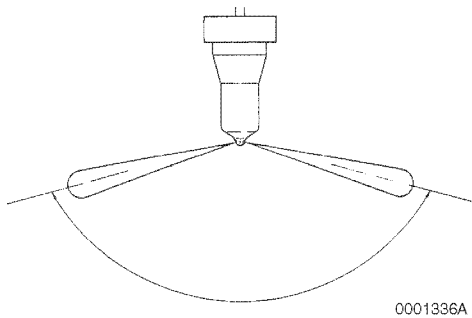
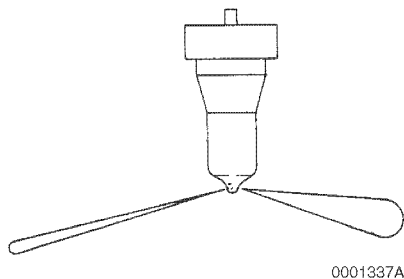

Figure 7-30
Figure 7-31
- Pump the operating lever more rapidly to repeatedly "pop" the injector and observe the spray pattern. The pattern should be a very fine uniform spray (**Figure 7-30**). If a dripping or an uneven pattern is seen (**Figure 7-31**), service or replace the injector.